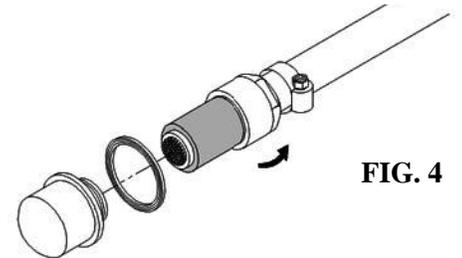

FIG. 4
1) Install the lens gasket on the lens. Slide the lens over the silicone bushing and screw the compression nut to the lens. Tighten the compression nut until it contacts the gasket. **Do Not** over tighten and distort the gasket. **FIG. 4**